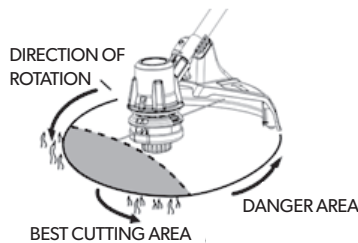

Figure 9
- Tilt the machine toward the area to be cut. Use the tip of the cutting line to cut grass, as shown in figure 9.